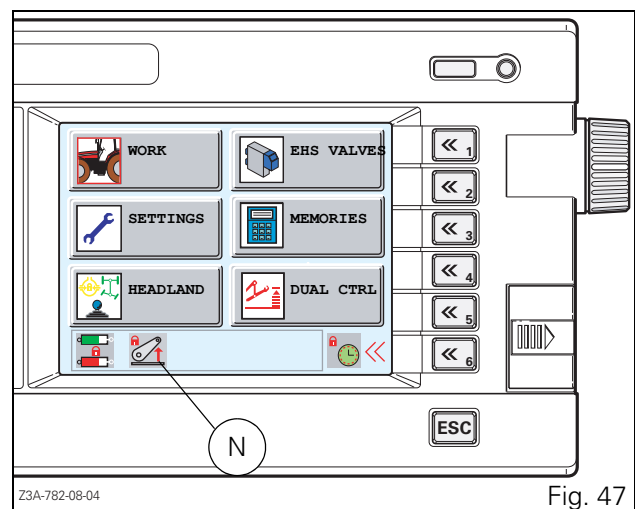

Fig. 47
To reactivate the linkage, move the switch (E) to the intermediate position, then to the lift position. Linkage is then brought back into operation and the padlock (N Fig. 47) in the DATATRONIC 3 window disappears, if this latter has been installed.
- Move the selector switch (E) to Lowering position, press and hold button (L) to trigger quick soil engagement.